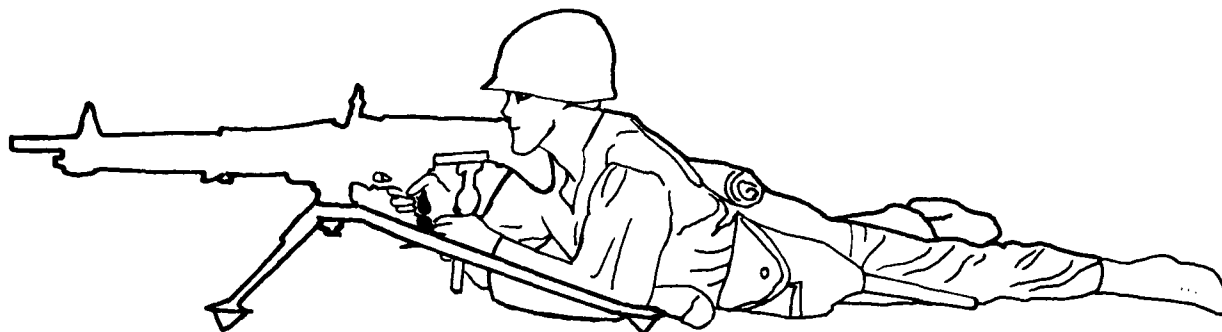

Figure 5-30.—Prone position with tripod-mounted gun.
**TRIPOD-MOUNTED GUN.**—The firing position when you are firing from the tripod mount (fig. 5-30) is similar to the position used when you are firing from the bipod. The difference is that the hinged shoulder rest is not used, and your elbows should be inside the tripod legs but not touching the tripod. Your left hand grasps the elevating handwheel palm down and is used to accomplish all manipulation. When firing and aiming, exert firm pressure to the rear with both hands as you would when firing from the bipod.